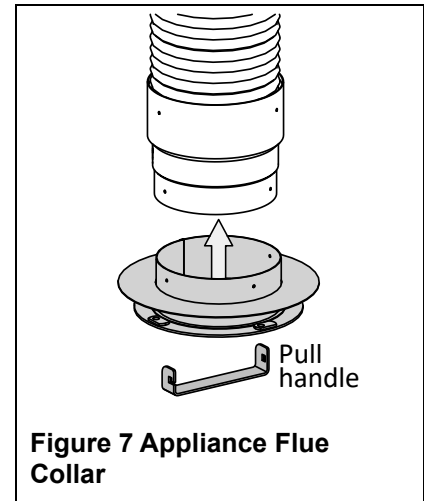
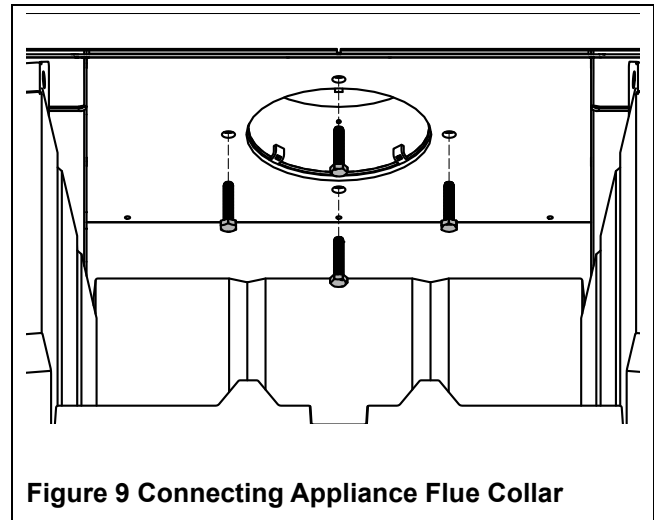

Figure 7 Appliance Flue Collar
Figure 9 Connecting Appliance Flue Collar
5. If there is not enough room to connect the liner to the appliance flue collar, the appliance flue collar needs to be removed from the insert before sliding it into the masonry opening. Remove the first three secondary air tubes from left side (Figure 16), using a 5/16" socket, and remove the baffle to have access to the appliance flue collar bolts. Remove the 4 bolts from the appliance flue collar (Figure 9). Connect the stove adapter to the appliance flue collar (Figure 7). When the stove adapter is secured, attach the pull-handle to the appliance flue collar.
9. Bolt the appliance flue collar in place from the inside of the firebox with the four bolts provided (Figure 9).